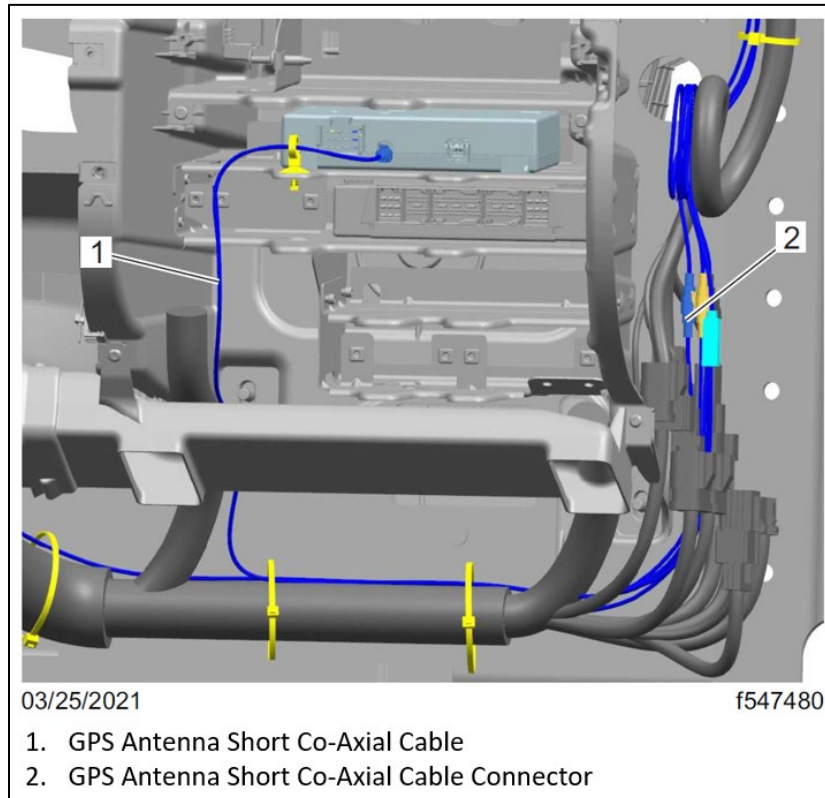

Fig. 21, Cummins Acumen GPS Antenna Short Co-Axial Cable Installation
4. Install the short co-axial cable by connecting one end to the Cummins Acumen module, and route it to the right side of the electronics bay. See Fig. 21. Secure the cable to existing clipping points or tie straps.